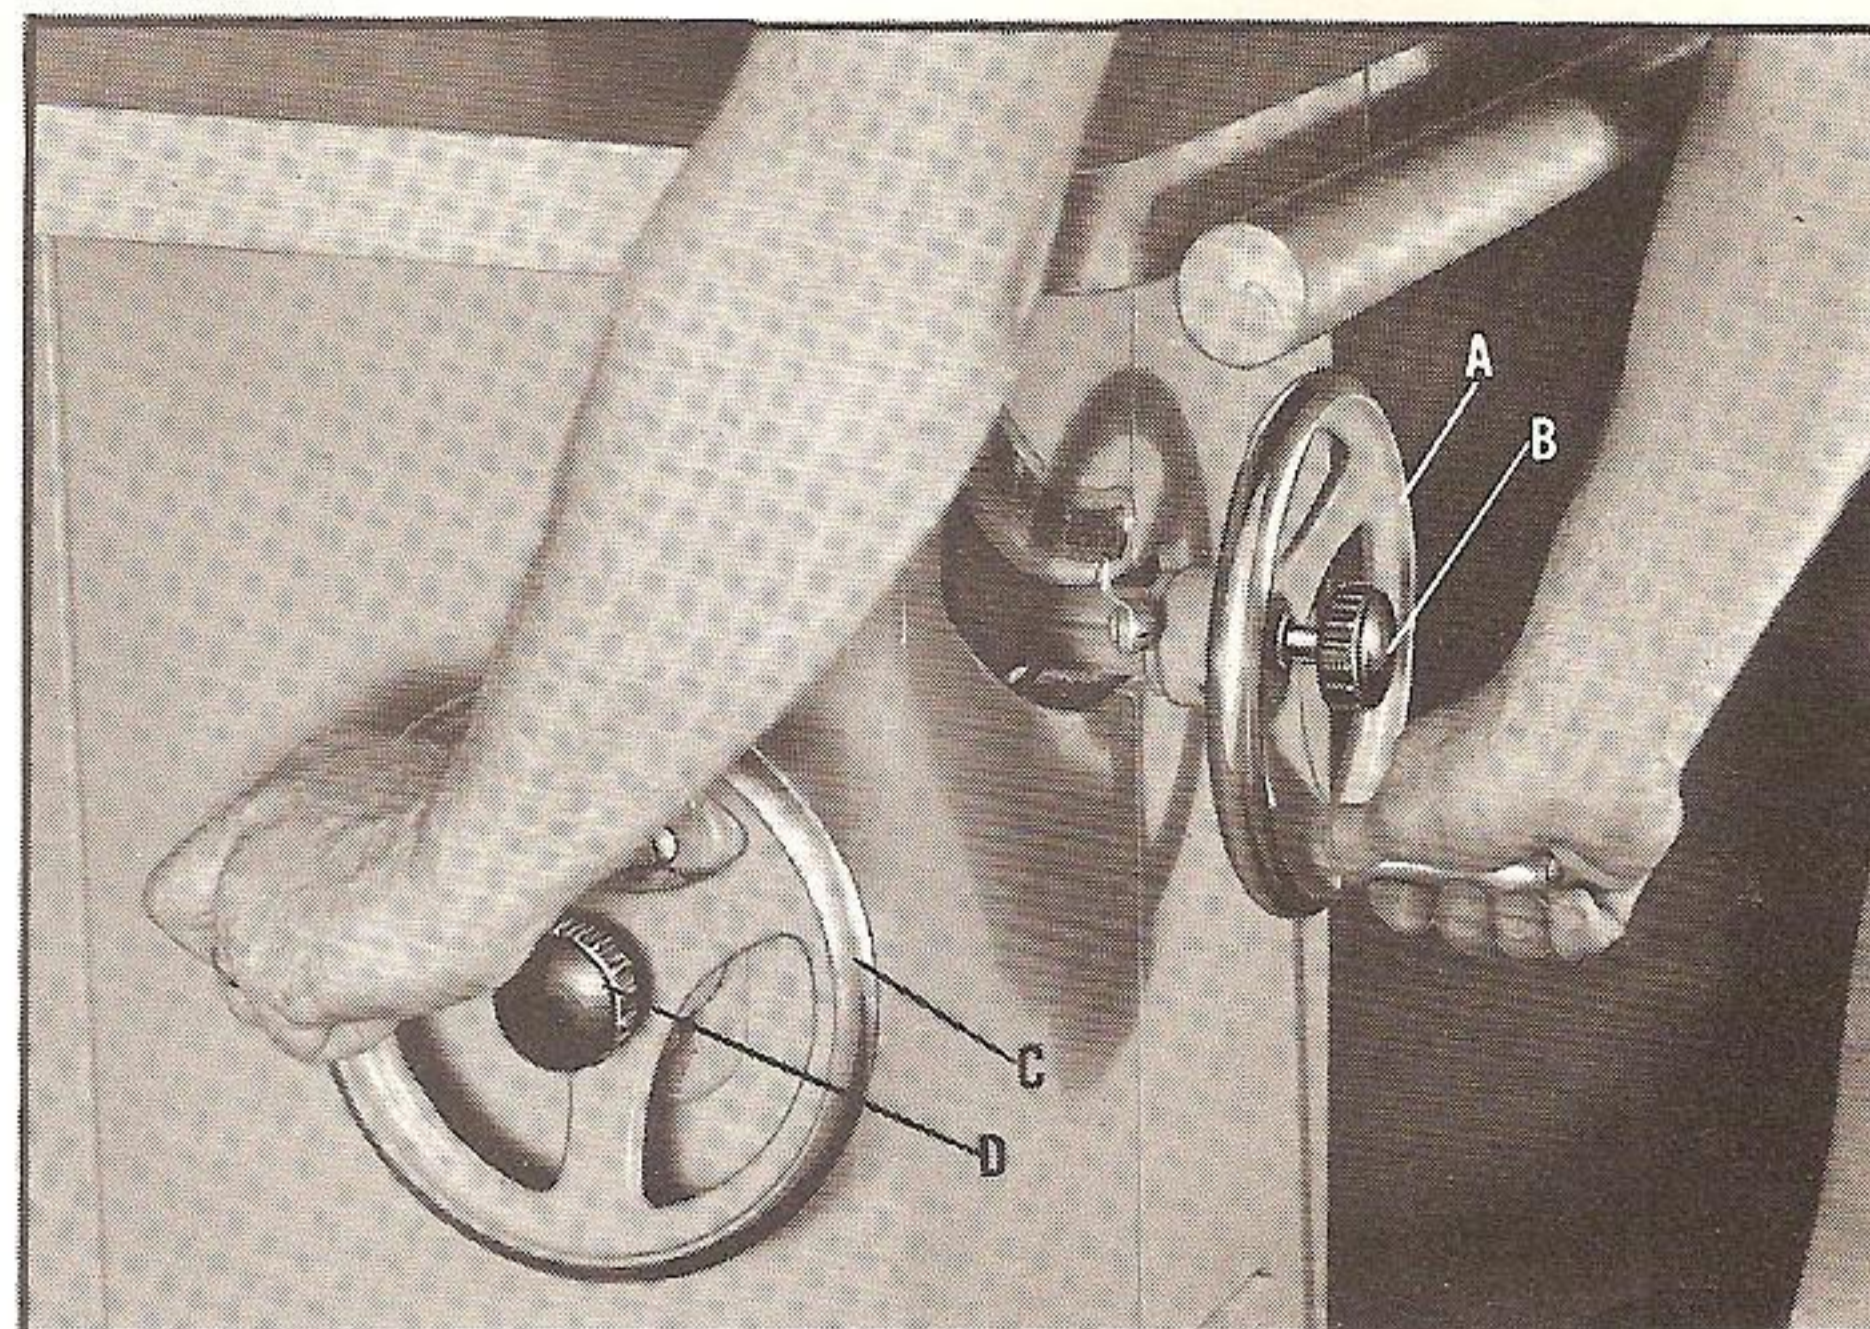

Fig. 20
The saw blade is raised and lowered with the front handwheel (A) Fig. 20. With the exception of hollow ground blades, the blade should be raised 1/8" to 1/4" above the top surface of the material being cut. With hollow ground blades the blade should be raised the maximum to provide greater clearance.
The saw blade is locked at any height by turning the hand knob (B) Fig. 20. Due to the wedge action of this locking device, only a small amount of force is required to lock securely. Any added force merely puts unnecessary strain on the locking device.
The saw blade is tilted by turning the handwheel (C) Fig. 20, at the left side of the cabinet. Each turn of the handwheel equals approximately one and one-half degrees tilt. The tilting handwheel can be locked at any angle by turning the hand knob (D) Fig. 20. Only a small amount of force is necessary to lock the handwheel securely.